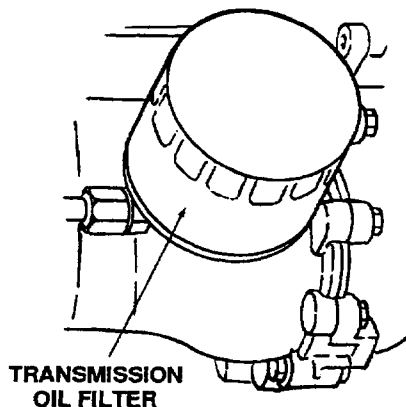

Figure 23
3. Clean around the base of the transmission oil filter and remove filter by turning it counterclockwise. (Refer to Figure 23.)